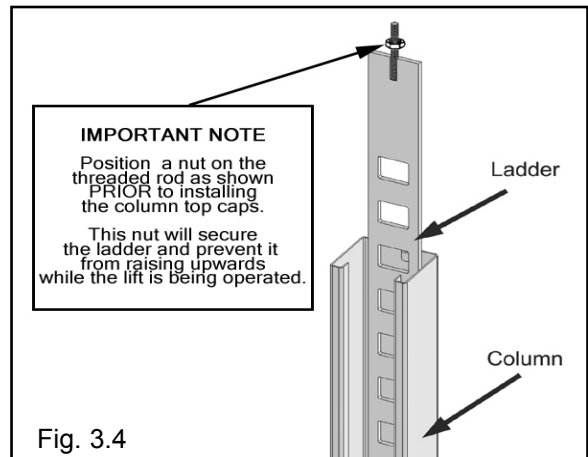

Fig. 3.4
4. With the Columns standing and the Cross Tubes in position, install the Safety Ladders. Pass the ladders through the Column openings and drop down through the Slide Block guide slots on the Cross Tube until the Ladders come to rest on the Base Plates. **DO NOT BOLT** Columns down at this time. (See Fig. 3.4 - 3.5)